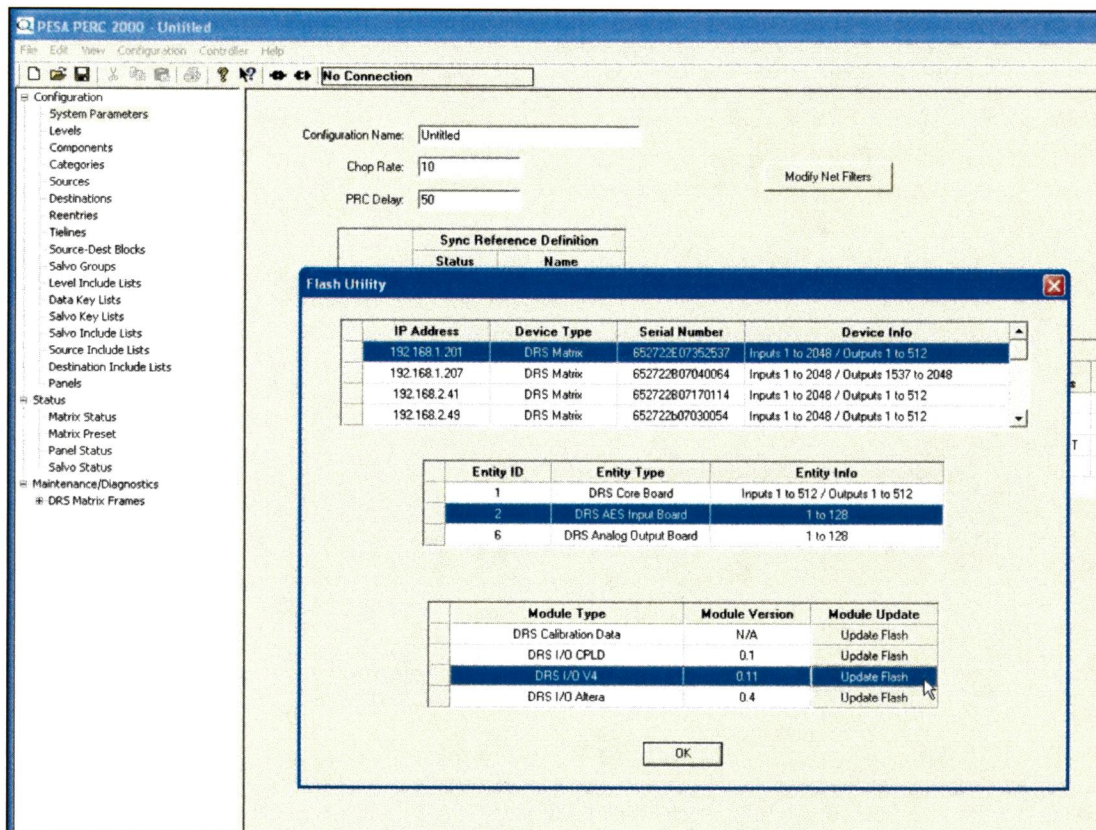

Figure 44. Update Flash Command
12. Use the scroll bar in the Module Type window to locate the module named **DRS I/O V4**, as shown in Figure 44, and click on this entry to highlight the module name. Click the cursor in the Module Update box on the command “Update Flash.”